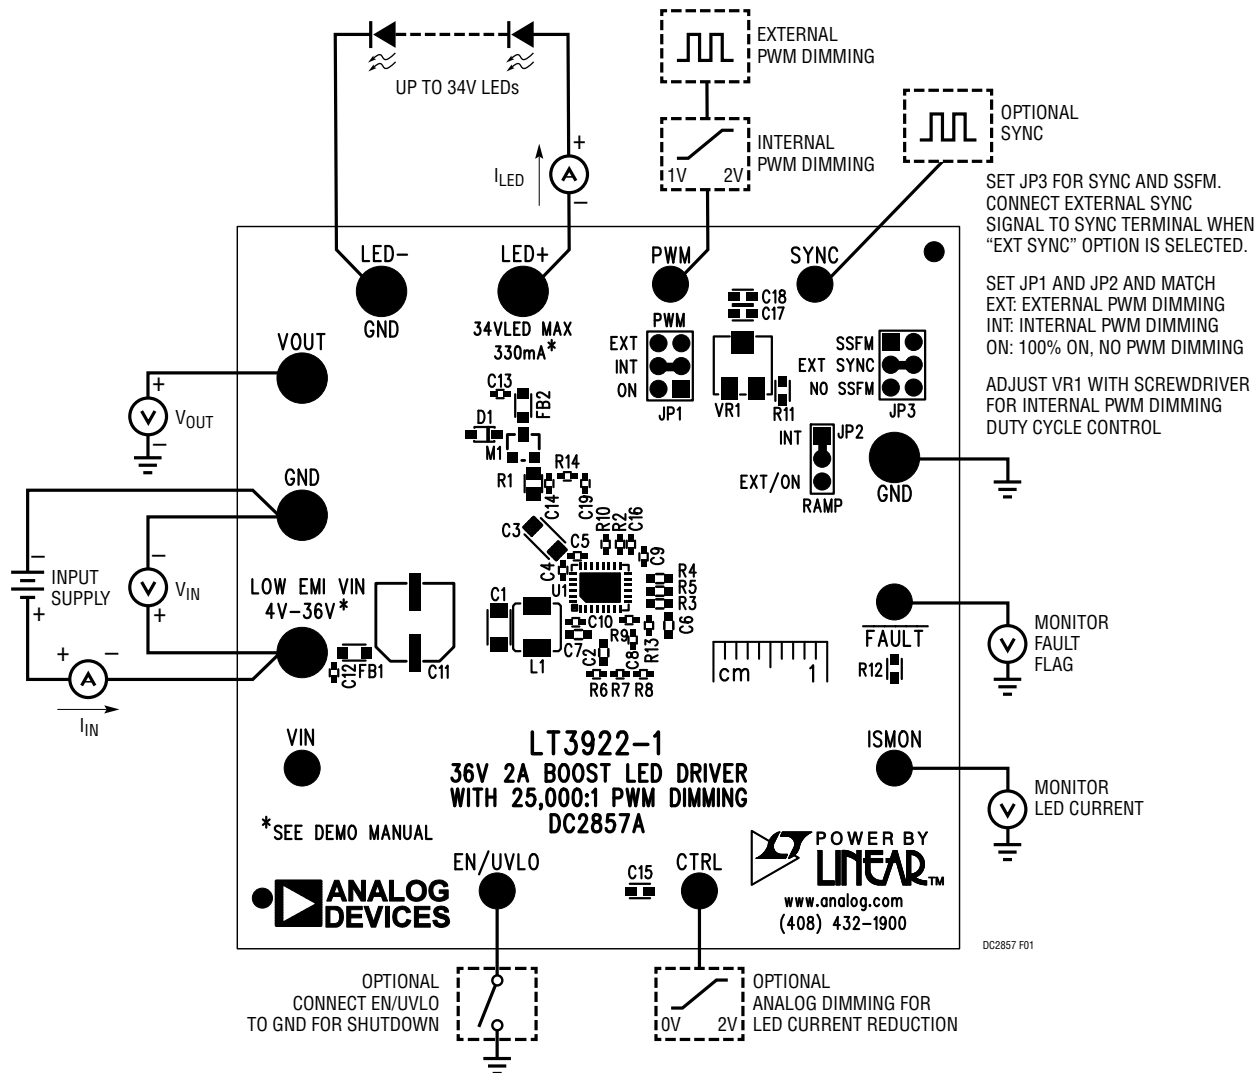

Figure 1. Test Procedure Setup Drawing for DC2857A
1. With power off, connect a string of LEDs that will run with forward voltage less than or equal to 34V (at 330mA) to the LED+ and LED- terminals on the PCB as shown in Figure 1.